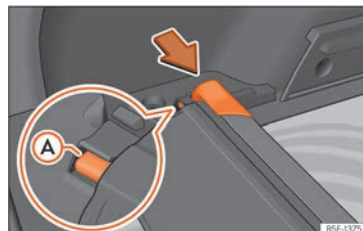

Fig. 131 In the luggage compartment: space to store the retractable shelf.
- Press the head of the retractable shelf in the direction of the arrow until it engages in its housing »» Fig. 131. Make sure that slide (A) fits into the corresponding housing.